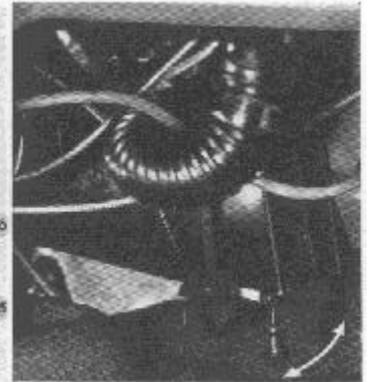

Fig. 8
- Fig. 8
Air Distribution Controls (27, Fig. 8)